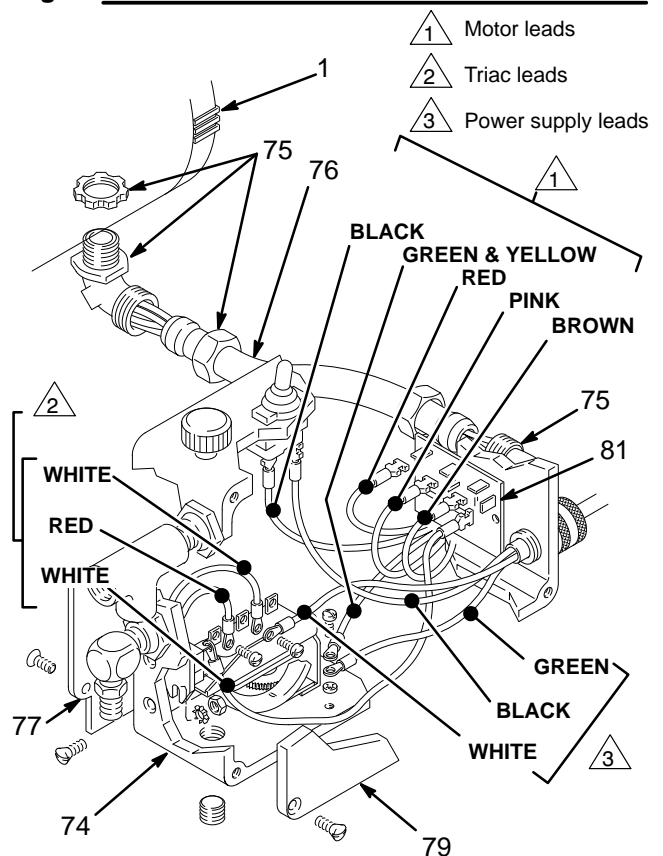

Fig. 16
1. Remove the pressure control cover (79). Pull the circuit board (81) out carefully, just enough to reach the wire terminals. Disconnect the leads. Remove the board. See Fig. 16.
3. Disconnect the remaining two motor leads (black and green/yellow). See Fig. 16.
5. Pull the pressure control (74) away from the conduit (76) and carefully guide the leads through the connector (75) one at a time. See Fig. 16.
8. Position the circuit board (81) in the pressure control so the wire connectors are at the top. Connect the leads to the board as shown in Fig. 16. Guide the leads into the pressure control, making sure they don't catch on anything. Slide the board into place.
9. Connect any other loose wires. See Fig. 16.